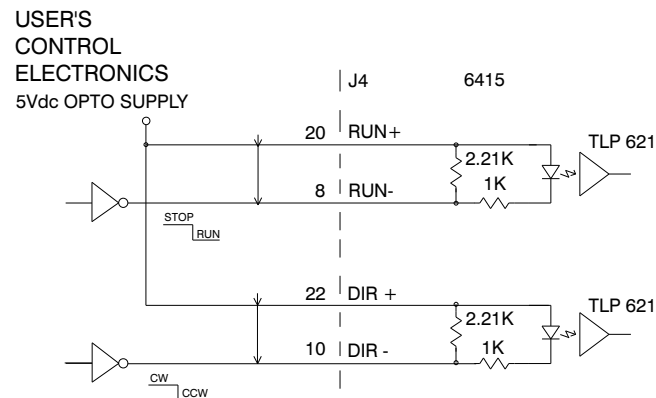

Figure 2 - Single RUN/STOP and DIRECTION Command Signals with User +5Vdc Power Supply
2. Wire the control signals for the independent RUN, STOP and DIRECTION control into connector J4 as shown in Figures 2 and 3.